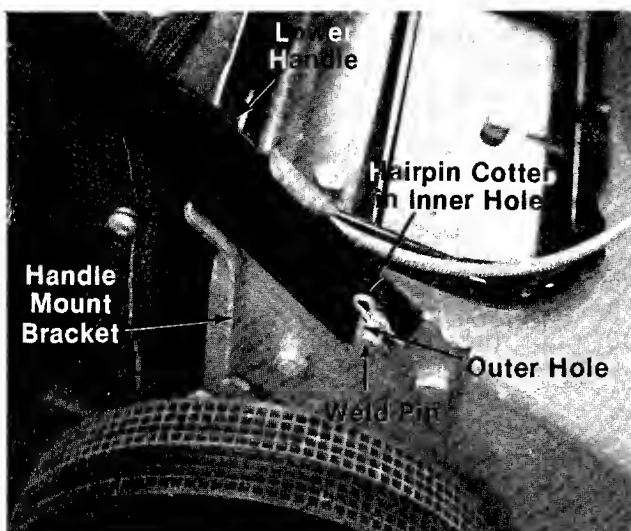

FIGURE 2.
3. Place lower handle in position over weld pins in handle mount brackets on deck. Secure by placing two hairpin cotter (F) in inner hole on weld pins. See figure 2.